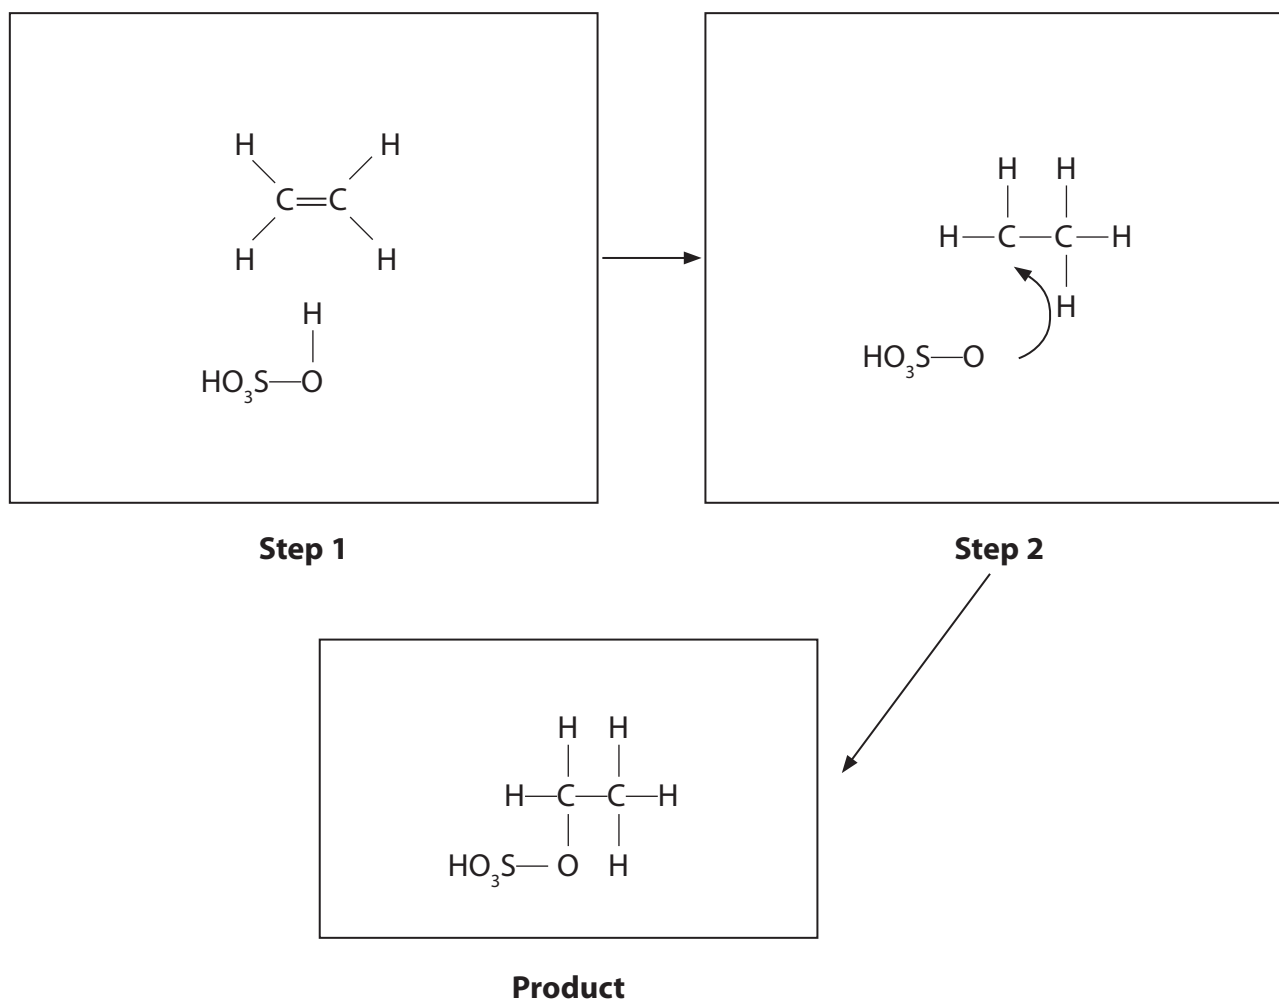

Figure 3
Figure 3 shows an incomplete diagram of the stages in the electrophilic addition mechanism between ethene and sulfuric acid.
The dipoles, charges, lone pairs of electrons and some of the curly arrows are not shown in Figure 3.
- (i) Add the dipoles and curly arrows to the structures in Step 1 of Figure 3. (2)
- (ii) Add the charges and lone pair of electrons to Step 2 of Figure 3. (2)